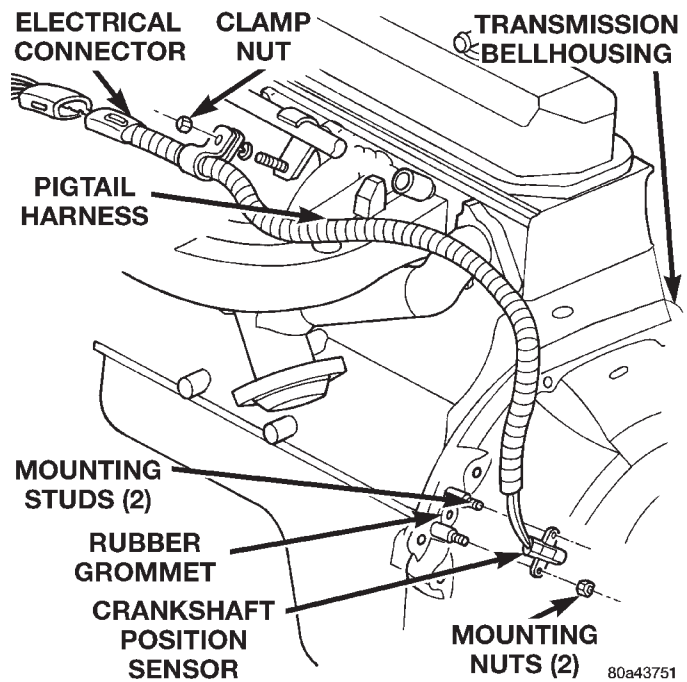
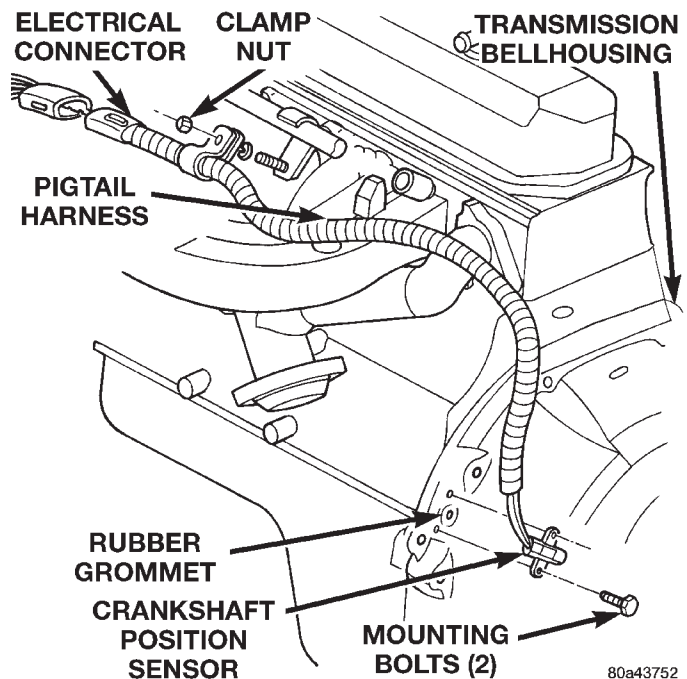

Fig. 6 Crankshaft Position Sensor—2.5L Engine
Fig. 7 Crankshaft Position Sensor —4.0L Engine
- (7) Mark front propeller shaft, axle, and transfer case yokes for installation alignment, if equipped.
- (8) Remove propeller shaft(s).
- (9) Unclip wire harnesses from transmission and transfer case, if equipped.
- (10) Disconnect transfer case vent hose, if equipped.
- (11) Disengage any wire connectors attached to transmission or transfer case, if equipped, components.
- (12) Support transfer case, if equipped, with transmission jack.
- (13) Secure transfer case, if equipped, to jack with safety chains.
- (14) Disconnect transfer case shift linkage at transfer case, if equipped.
- (15) Remove nuts attaching transfer case to transmission, if equipped.
- (16) Remove transfer case, if equipped.
- (17) Remove crankshaft position sensor (Fig. 6), (Fig. 7).